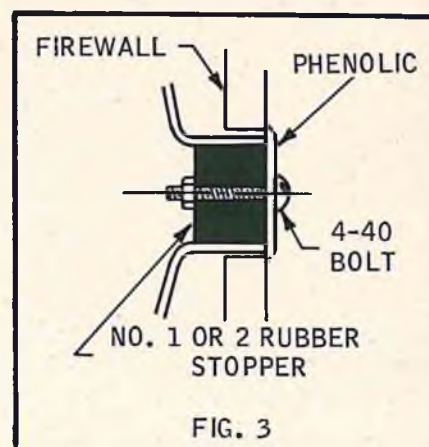

FIG. 3
- Leaking plastic fuel bottles? Most fuel bottles have gotten away from screw caps and are using the more efficient plugs of plastic or rubber. Sometimes even these leak, especially after the stopper has been removed a few times. Using a new stopper (they're available at medical supply houses for a dime or so) and a 4-40 bolt and nut, the problem can be eliminated. (Fig. 3) All that's necessary is a light ex-